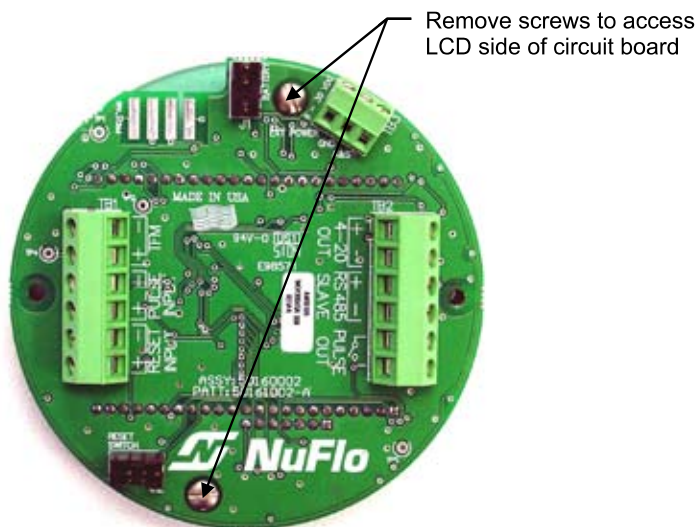

Figure 6.5—Disassembly of circuit board/keypad assembly
7. Remove the two #4-40 × 5/16" screws fastening the circuit assembly to the keypad assembly (Figure 6.5, page 90).
4. Remove the two #4-40 × 5/16" screws fastening the circuit assembly to the keypad (*Figure 6.5*, page 90).